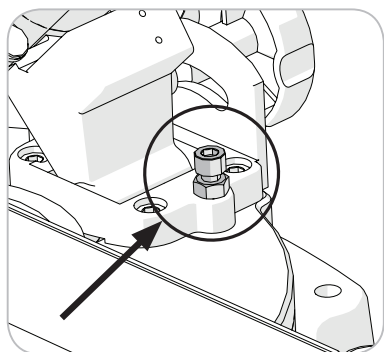

Fig. 9
- Loosen the locknut on the Bevel Angle Adjustment Screw. (Fig. 9)